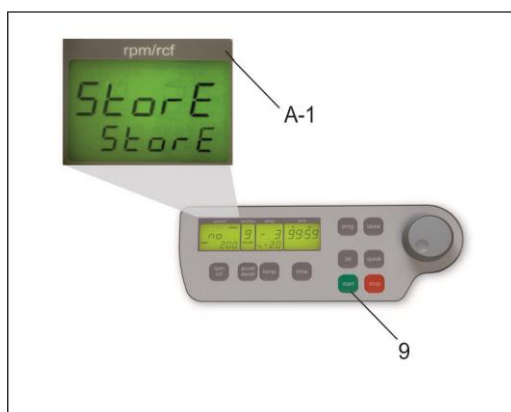

Figure 3
- All changed settings must be confirmed by the key, "start" (9). An optical confirmation appears with the word, "store" in the display "rpm/rcf"(A-1) - Only then, the pre-selections are valid! (see Figure 3)